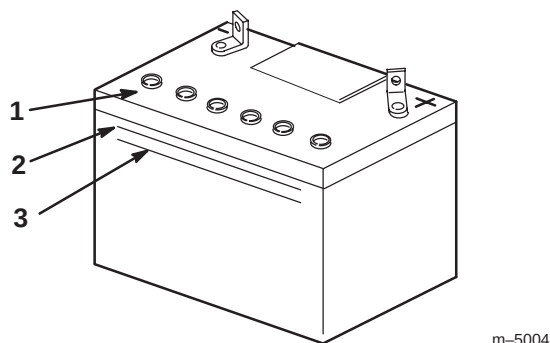

Figure 75
2. Look at the side of the battery. The electrolyte must be up to the **upper** line (Fig. 75). Do not allow the electrolyte to get below the **lower** line (Fig. 75).
3. Remove the vent caps from the battery (Fig. 75).
4. Slowly pour distilled water into each battery cell until the level is up to the **upper** line (Fig. 75) on the battery case.
5. Wait five to ten minutes after filling the battery cells. Add distilled water, if necessary, until the electrolyte level is up to the **upper** line (Fig. 75) on the battery case.